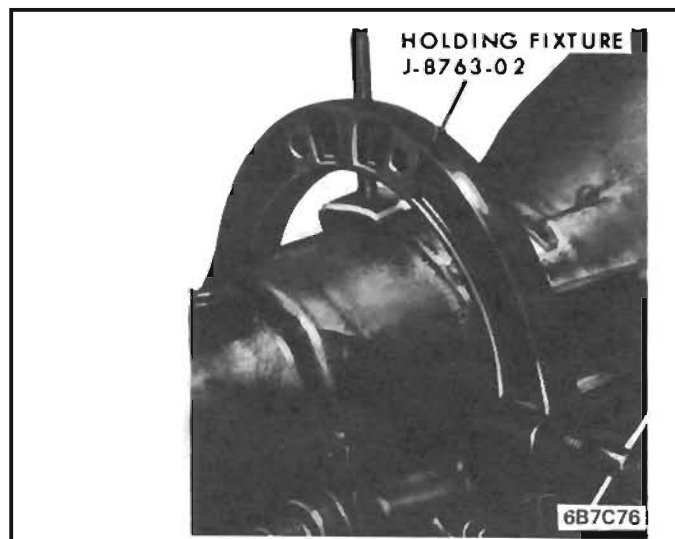

Figure 14 Transmission Holding Fixture
1. Place transmission in Fixture J-8763-02. Do not over tighten. See Figure 14.